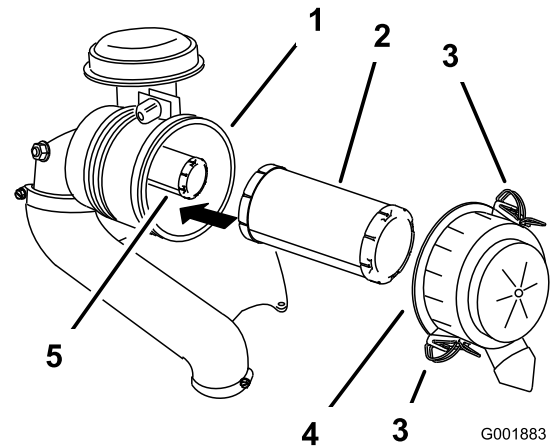

Figure 30
3. Release the latches on the air cleaner and pull the air-cleaner cover off the air-cleaner body (Figure 30).
5. Gently slide the primary filter out of the air-cleaner body (Figure 30).
- If you are replacing the safety filter, carefully slide it into the filter body (Figure 30).
- Carefully slide the primary filter over the safety filter (Figure 30).
- Install the air-cleaner cover with the side indicated as **up** facing upward and secure the latches (Figure 30).